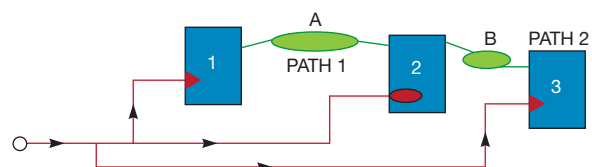

Figure 2 Path 1 goes from a positive-triggered register (1) to a negative-level latch (2). Path 2 goes from the latch to a positive-edge-triggered register (3).
A sample circuit has two timing paths (Figure 2). Path 1 goes from a positive-triggered register (1) to a negative-level latch (2). Path 2 goes from the latch to a positive-edge-triggered register (3). In the figure, borrowing compensates
Figure 2 A top view of a 15×15-hole prototype board shows component placement and connections on the top (green) and bottom (black) for the voltmeter circuit (a). A bottom view of the board shows the connection on the bottom, along with three resistors (b). For a full-size view of this figure, go to www.edn.com/110922dia.